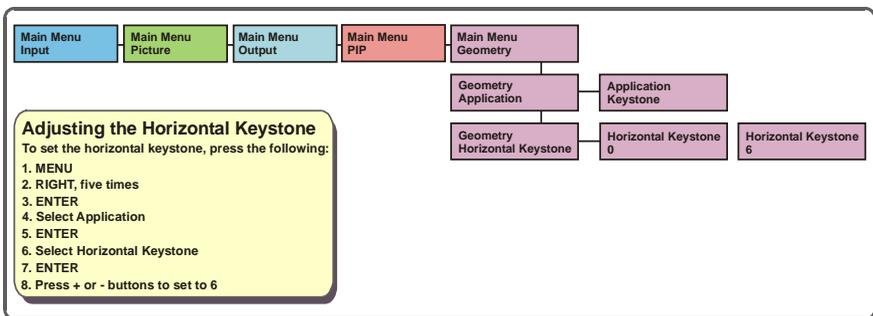

Figure 20: Example of how to use the LCD Display
2. Press the appropriate front panel OSD buttons (as defined in Figure 20).
¹ To keep the picture rectangular Figure 20 illustrates how to adjust the Keystone via the OSD Menu